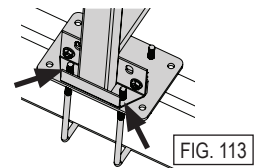

FIG. 113
On each side of the gantry, route **U-bolts (3)** through the inner holes in the **mounting bracket (2)** and gantry feet, see Figure 113.